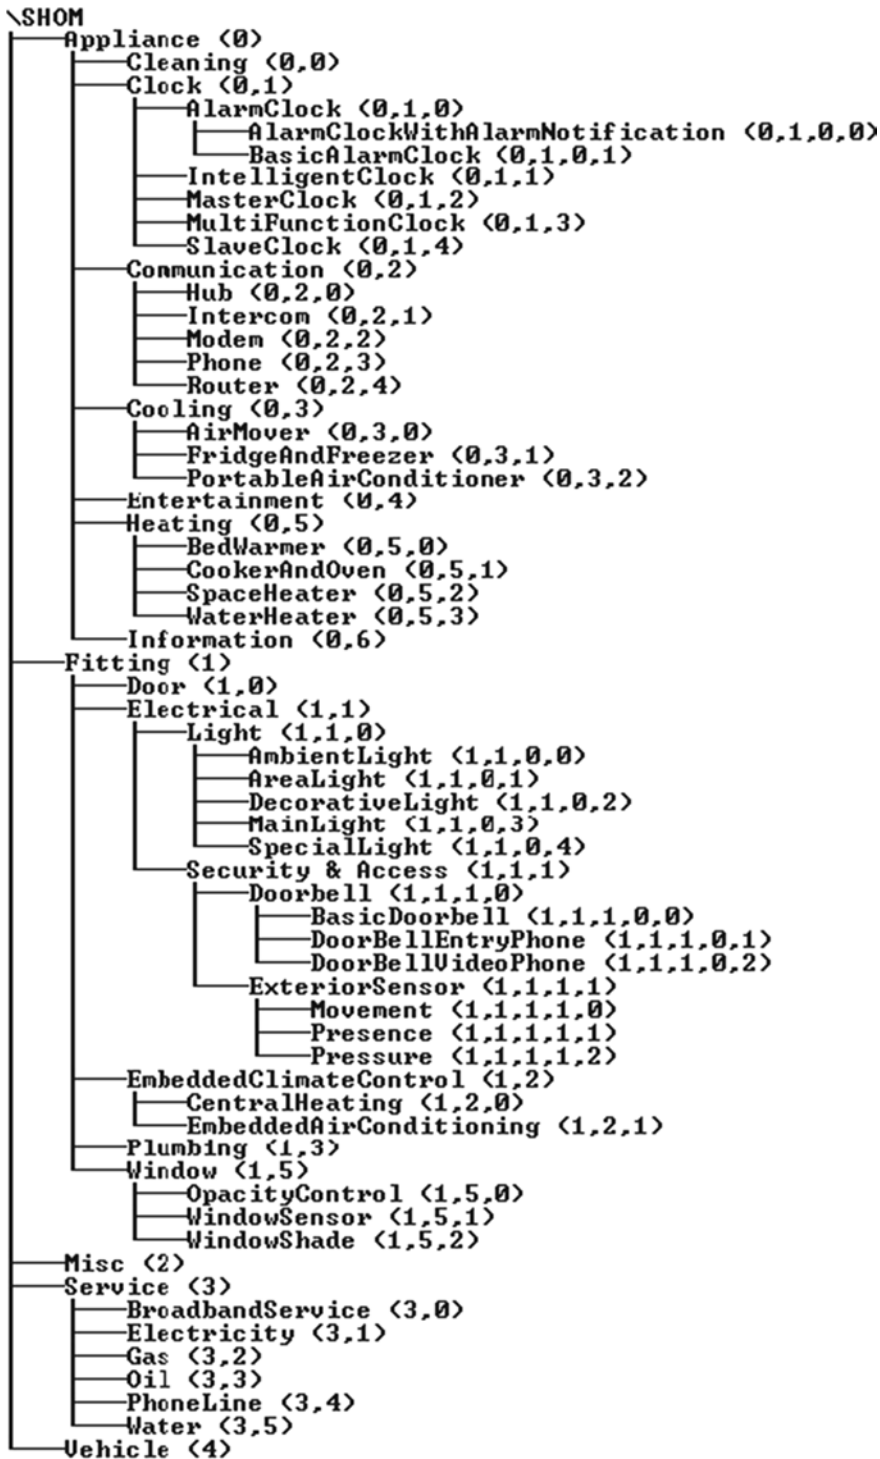

Figure 6-9. SHOM hierarchy—addressed version
To build our model, what we need to do is assign a sequential index number (starting from zero) to each item at each level in the hierarchy. This is rather like assigning an address to every house in a street that's just been newly built. That's what we do in Figure 6-9.
- To allow for updates, the object model itself would need to have an embedded version number. This could either be done by replacing the `\SHOM` at the top of the map (see Figure 6-9) with a name that includes the version number (e.g., `\SHOM_V2.1.7`) or simply by prefixing the `\SHOM` root with a version number. and bumping that number whenever necessary. For example, referring to Figure 6-9, instead of communication hubs being 0,2,0 they would (in, say, SHOM version five) be 5,0,2,0.